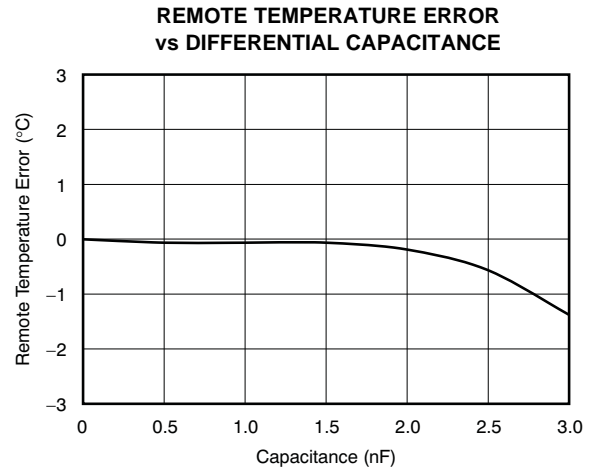

Figure 6.
(3) C_{DIFF} (optional) should be $< 1000\text{pF}$ in most applications. Selection of C_{DIFF} depends on application; see the Filtering section and Figure 6, *Remote Temperature Error vs Differential Capacitance*.
- (1) Diode-connected configuration provides better settling time. Transistor-connected configuration provides better series resistance cancellation.
- (2) R_S (optional) should be $< 1.5k\Omega$ in most applications. Selection of R_S depends on application; see the Filtering section.
- (3) C_{DIFF} (optional) should be $< 1000pF$ in most applications. Selection of C_{DIFF} depends on application; see the Filtering section and Figure 6, Remote Temperature Error vs Differential Capacitance.
- (4) TMP422 SMBus slave address is 1001 100 when connected as shown.
The TMP421/22/23 tolerate differential input capacitance of up to 1000pF with minimal change in temperature error. The effect of capacitance on sensed remote temperature error is illustrated in Figure 6, *Remote Temperature Error vs Differential Capacitance*.